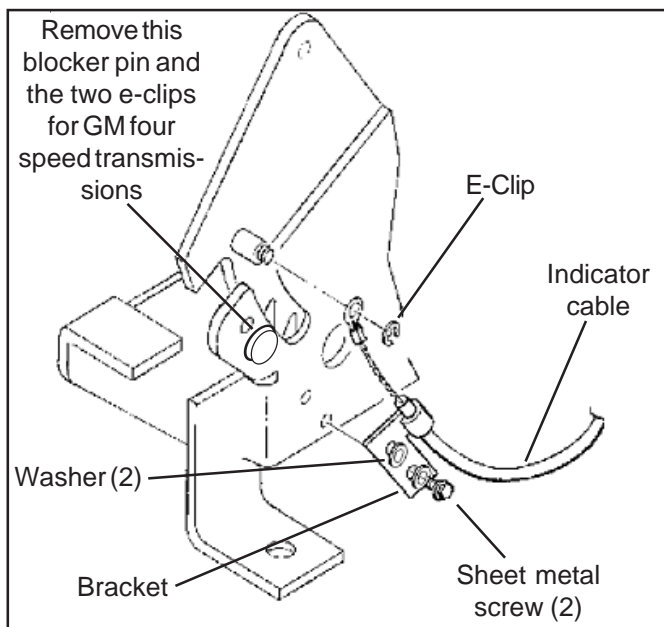

Figure 3
STEP 7. Just before the final installation of the shifter in the vehicle, attach the indicator cable to the side of the shifter as shown in **Figure 3**. The indicator cable bracket is secured to the shifter mechanism with two #6 x 3/8" sheet metal screws and two #6 washers, the eyelet on the end of the indicator cable is secured to the cable pin by a supplied small e-clip. The **B&M** top cover plate with the gear position indicator is attached to the other end of the indicator cable.